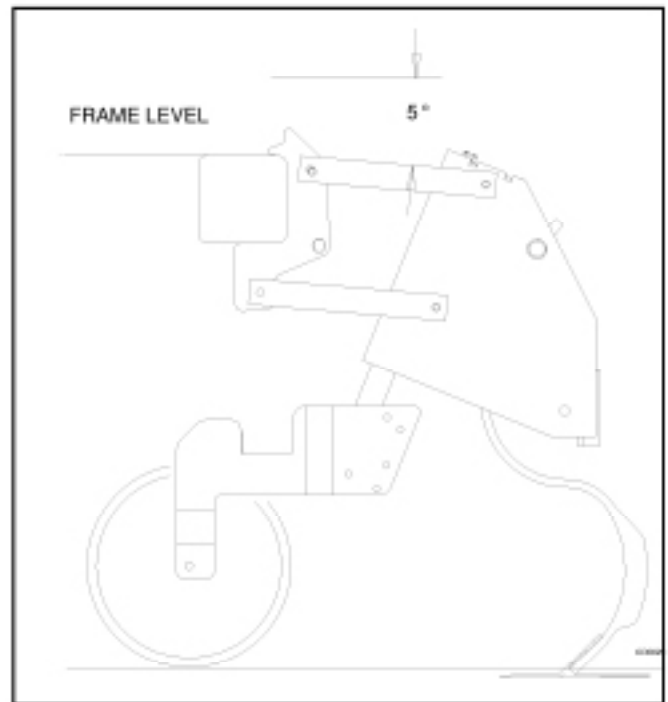

Figure 16 Operating Position
2. Adjust tractor 3-point hitch and frame gauge wheels so that cultivator linkage operates approximately 5 degrees from level as shown in Figure 16.